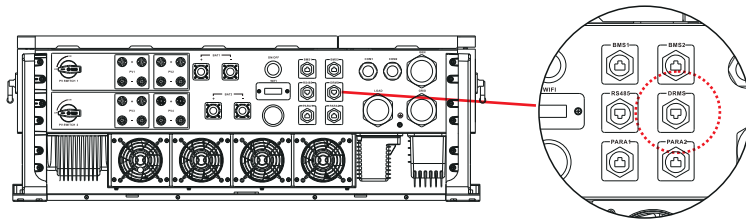

Figure 4.6-5 RJ45 interface
Step 4. Connect RJ45 terminal to the right position onto the inverter.See Figure 4.6-5.